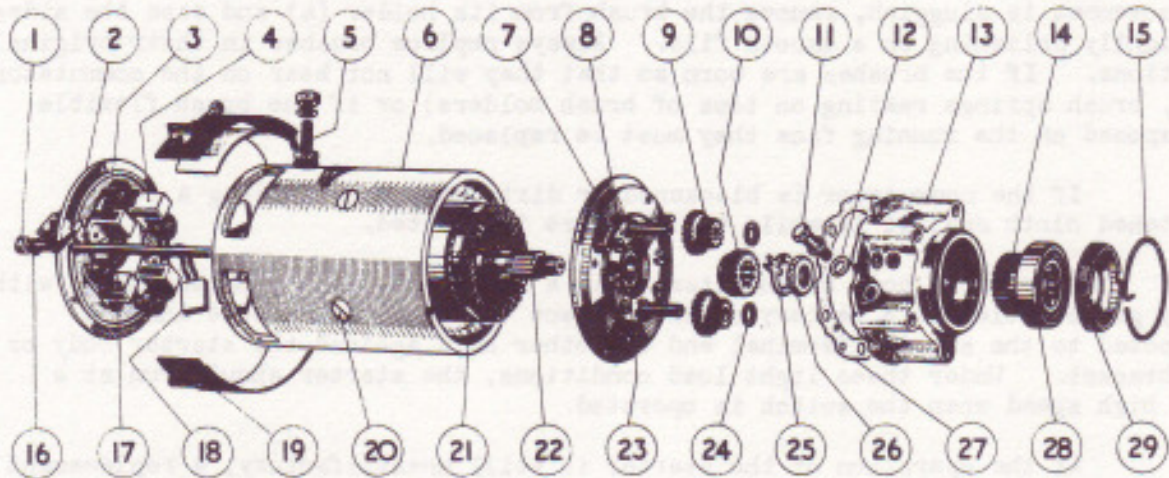

FIG. 12. "EXPLODED" VIEW OF STARTER MOTOR & REDUCTION GEAR.
Remove the starter cover band (19, Fig.12) together with cork joint and examine the brushes (18) and commutator. Hold back each of the brush
(See Notation for Fig.12.)